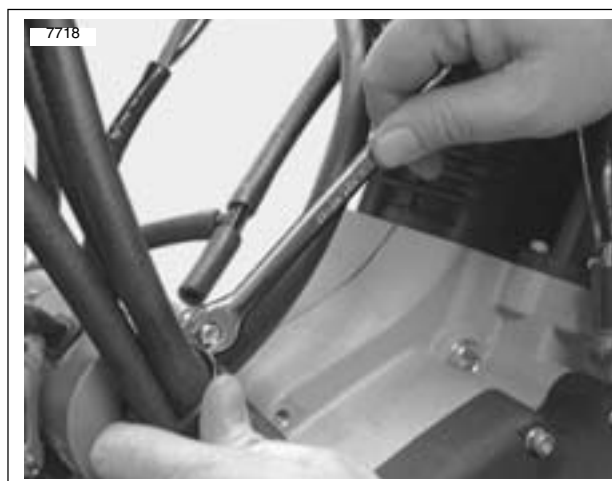

Figure 3-31. Tighten Clamp
13. See Figure 3-31. Tighten nut on hose routing clamp.